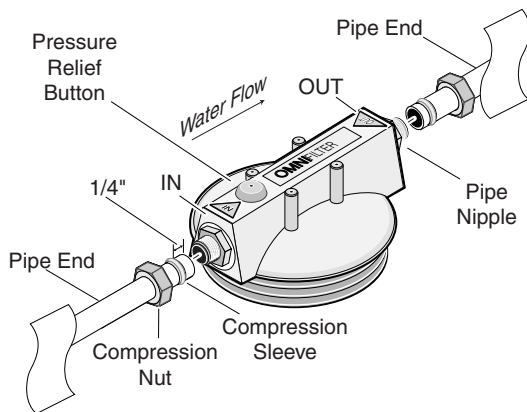

Figure 4
## Installation on 3/4" Copper Pipe: (See Figure 4)
- 5A. Place the compression nuts on the pipe, small end first. Follow the lock nuts with the brass compression sleeves (one for each cut pipe end). Slide each brass compression sleeve up 1/4" from the cut end of the pipe (see Figure 4).